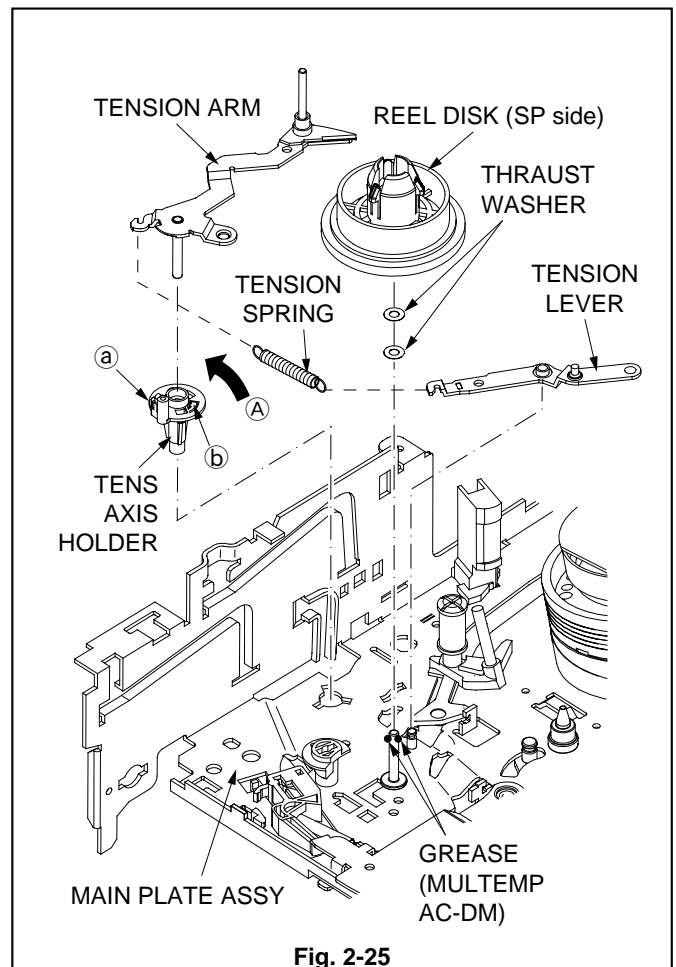

Fig. 2-25
1. Remove the TENSION SPRING shown in the Fig. 2-25.
2. Release the catch (a) of the TENS AXIS HOLDER shown in the Fig. 2-25 to remove the TENSION ARM.
3. Remove the TENSION LEVER shown in the Fig. 2-25.
4. Release the catch (b) of the TENS AXIS HOLDER shown in the Fig. 2-25. Move the TENS AXIS HOLDER in the direction shown by the arrow A to remove it.
1. Apply OIL (FLOIL 948P) [859D154O20] to the parts on the MAIN PLATE ASSY specified in the Fig. 2-25.